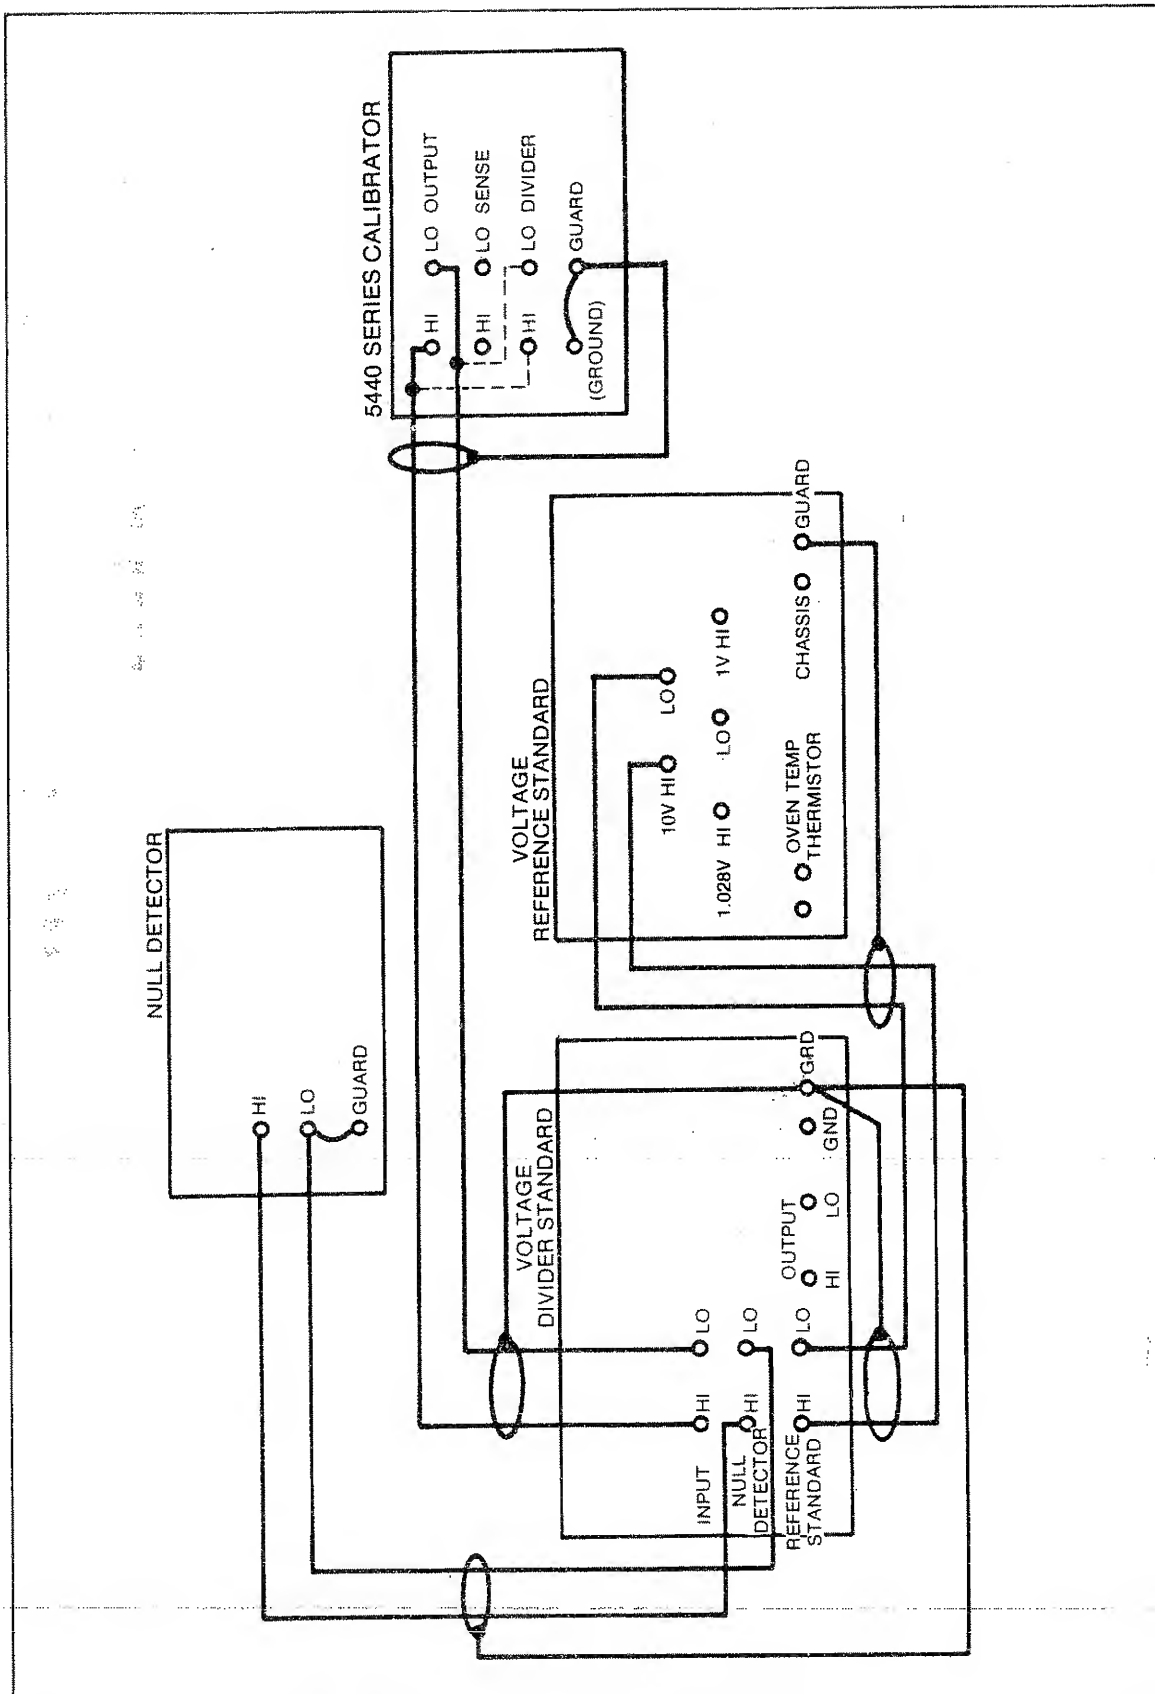

Figure 3-5. External Calibration Connections
2. Connect the test equipment as shown in Figure 3-5.